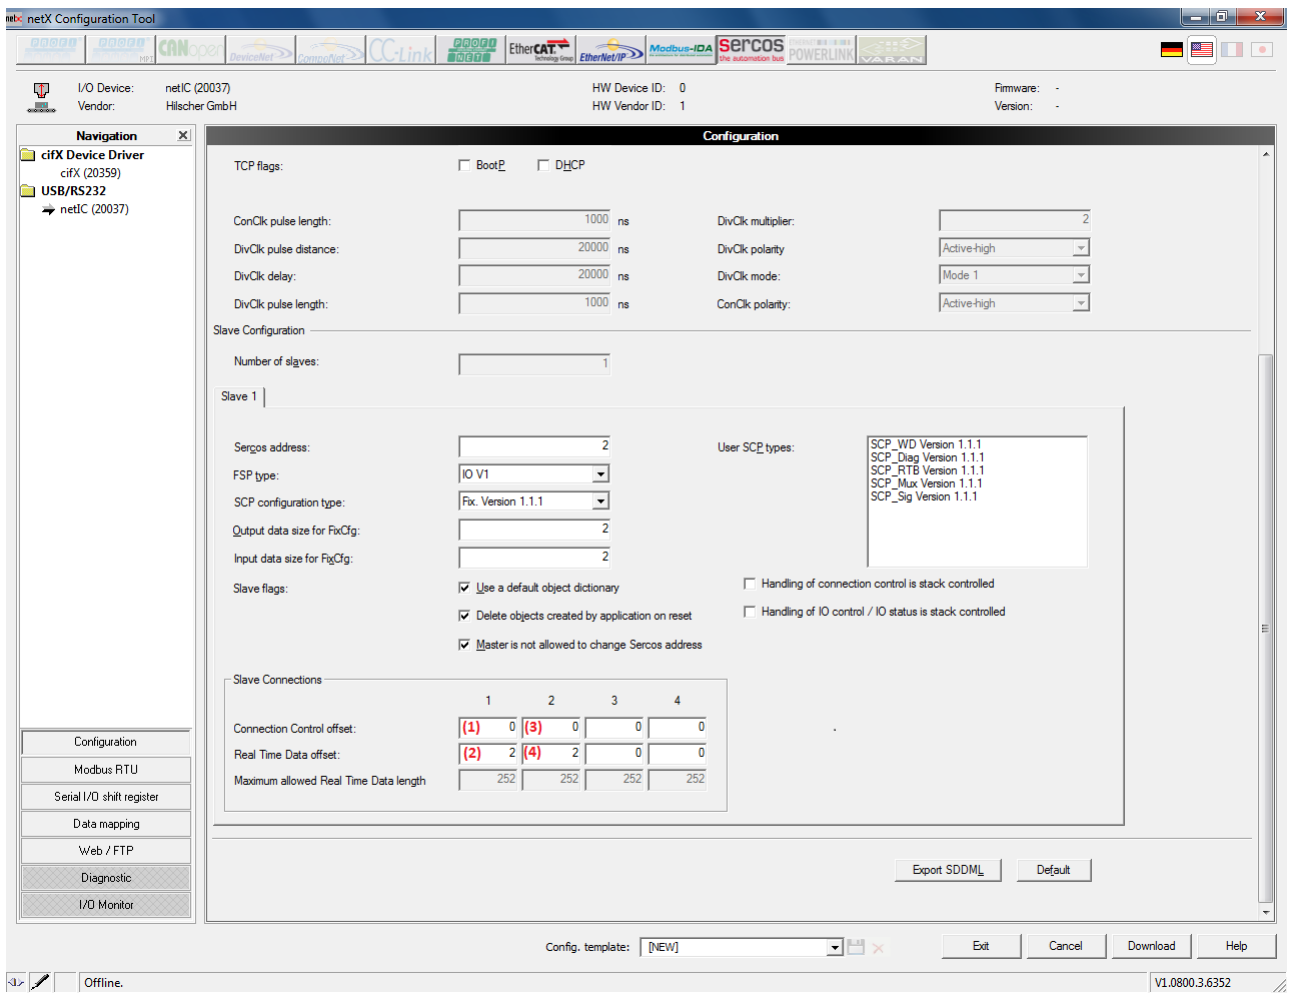

Figure 64: Screen “Configuration“ of the netX Configuration Tool (only lower part shown)
- In pane “Slave Connections” set each value at *Real Time Data Process Image Offset* to **2**, see *Figure 64: Screen “Configuration” of the netX Configuration Tool (only lower part shown)*
You can comfortably adjust these parameters using the netX Configuration Tool. Here the parameters are called *Connection Control Offset* (①,③), *Real Time Data Process Image Offset* (②,④) and *Real Time Data Maximum Length* (⑤,⑥). (The position numbers relate to *Figure 64* on page 168.)